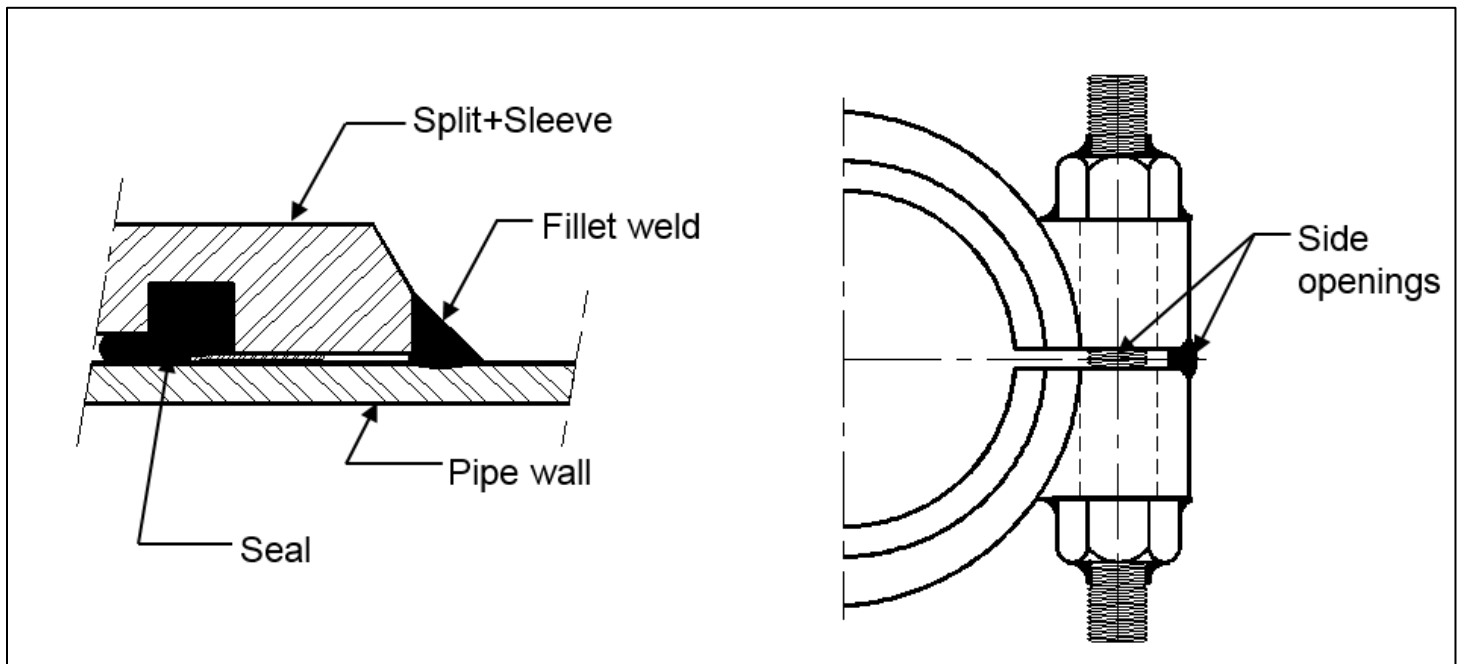

Figure 10
1. Fillet weld ends to pipe. (See Figure 10)